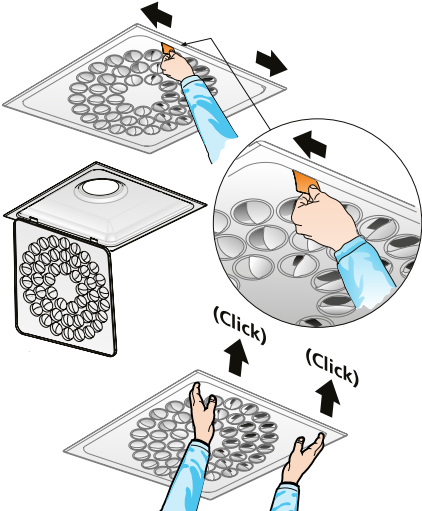

Figure 2. Quick Access, dismantling the diffuser face.
- To dismantle the diffuser face, insert a thin object, for example a Quick Access card or similar, between the diffuser face and the backing box in order to release the springs. Slide the card from the centre out towards the corner, see Figure 2.